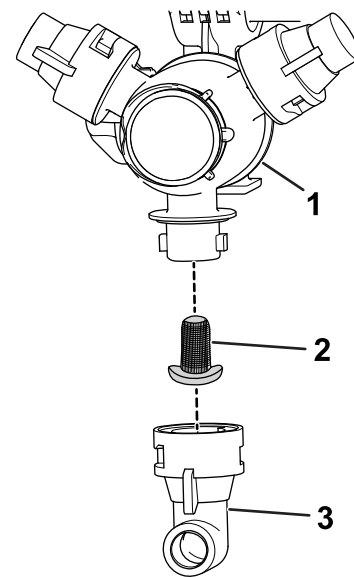

Figure 57
2. Remove the nozzle from the spray turret (Figure 57).
3. Remove the nozzle filter (Figure 57).
5. Install the nozzle filter (Figure 57).
6. Install the nozzle onto the spray turret (Figure 57).